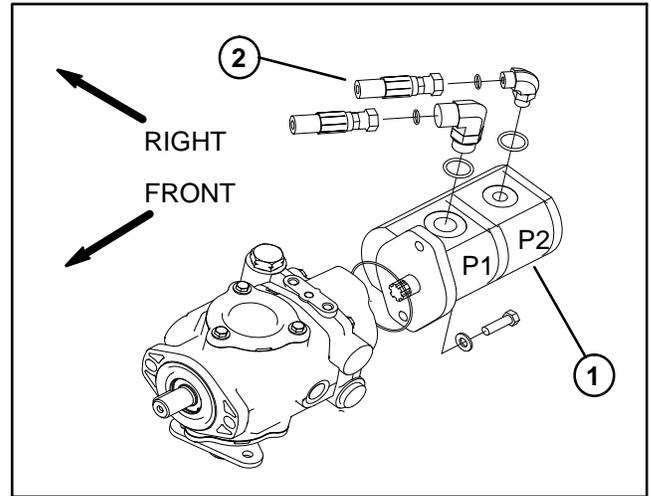

Figure 38
3. Disconnect hose connection on the gear pump (P2) leading to the steering control valve (Fig. 38).